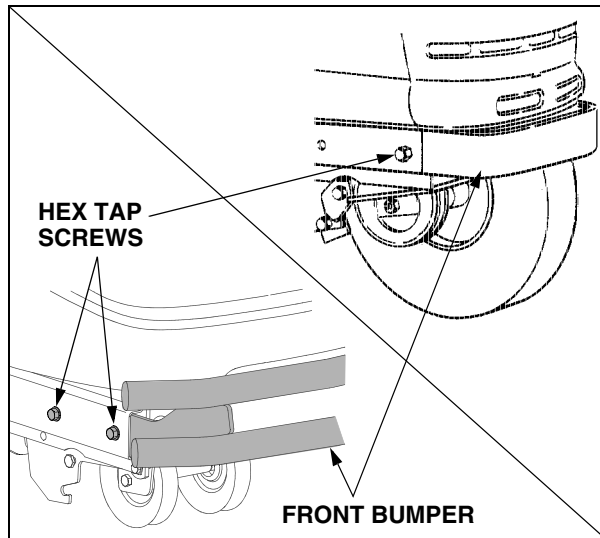

Figure 11
1. Remove the front bumper from the tractor frame by removing the hex tap screws securing the bumper in each side of the tractor frame. Slide the bumper out of frame. Store screws and bumper for later reassembly when the snow thrower is removed. Refer to Figure 11.